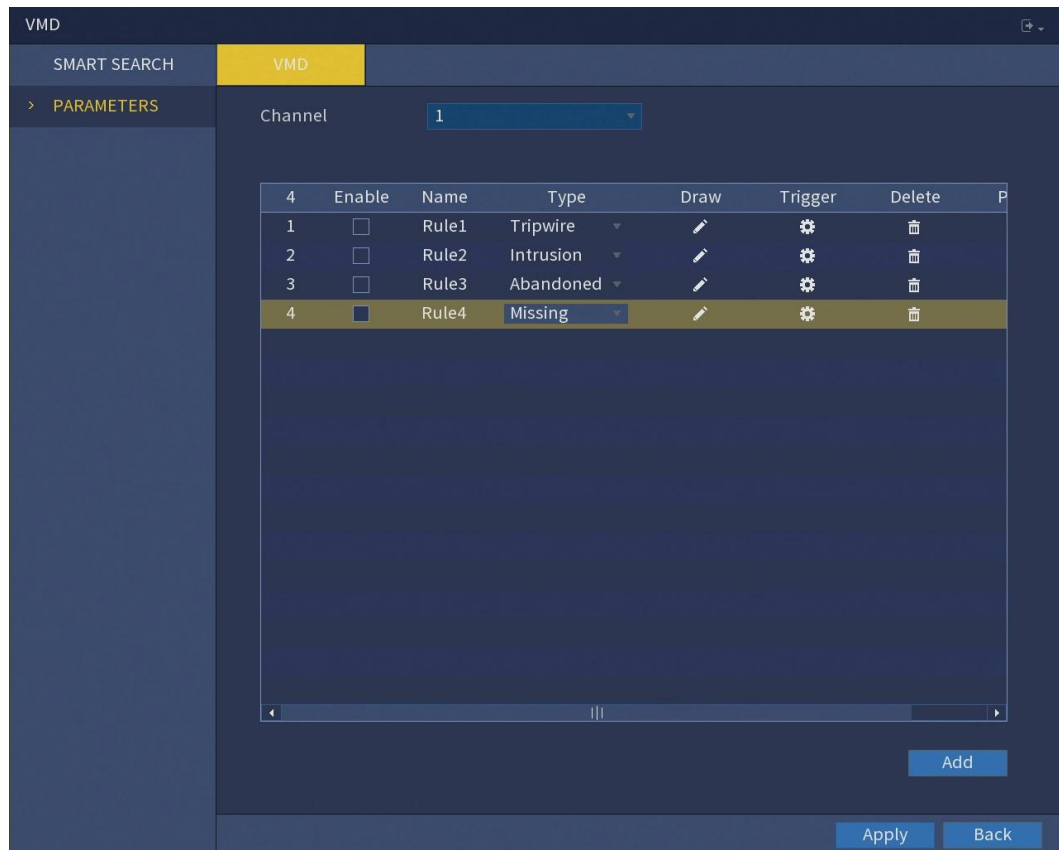

Figure 5-101
1. On the rule line that you added, in the **Type** list, select **Missing**. See Figure 5-101.